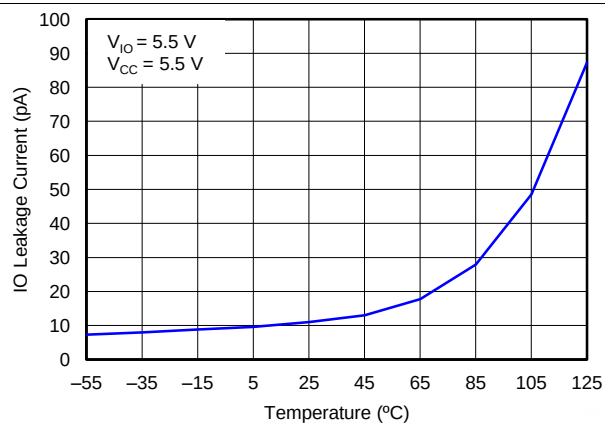

Figure 2. IO Leakage Current versus Temperature
- Revised Figure 2 graph ..... **4**